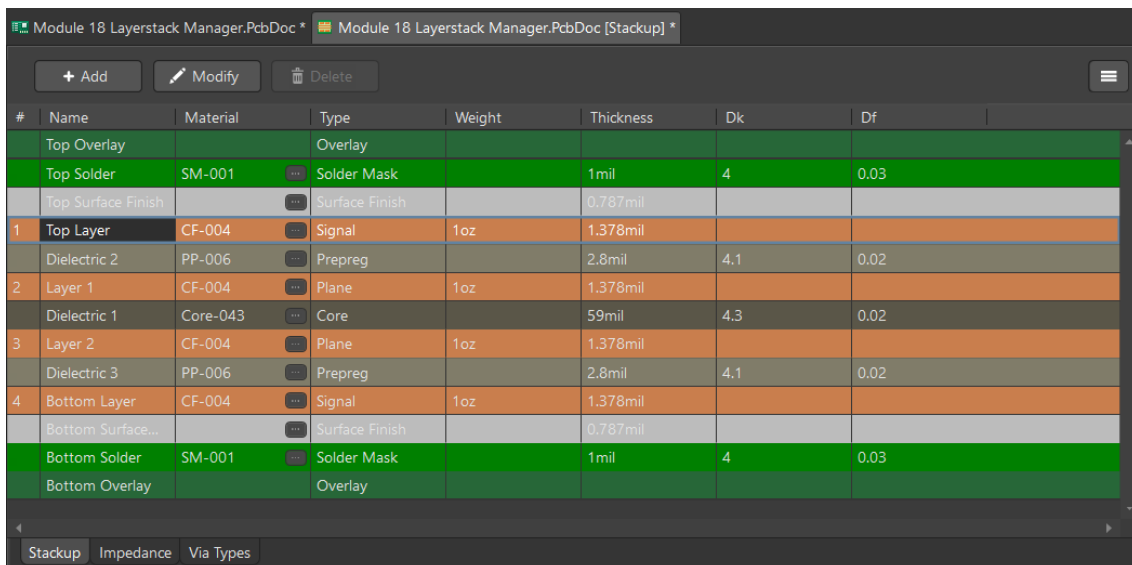

Figure 4. New Plane layers added
15. As a default configuration, two Plane Layers are added to create a symmetric stack as shown in Figure 4 below. The **Stack Symmetry** option can be enabled or disabled from the *Properties* panel.